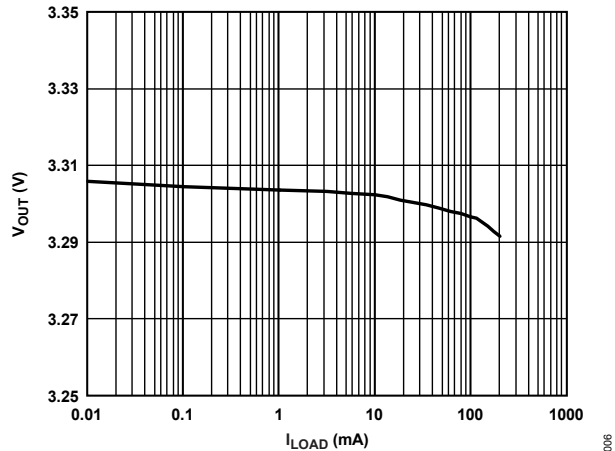

Figure 6. Output Voltage (V_{OUT}) vs. Load Current (I_{LOAD})
- Based on an end-point calculation using 0.1mA and 200mA loads. See Figure 6 for typical load regulation performance for loads less than 1mA